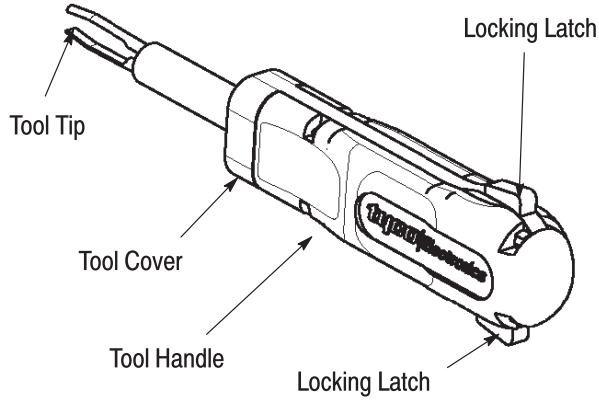

Figure 1
Extraction Tool 1-1579007-6 consists of a tool handle, tool cover with locking latches, and an extraction tool tip. Refer to Figure 1.
1. Depress the locking latches (Figure 1) on the extraction tool cover and slide the cover to expose the extraction tool tips.